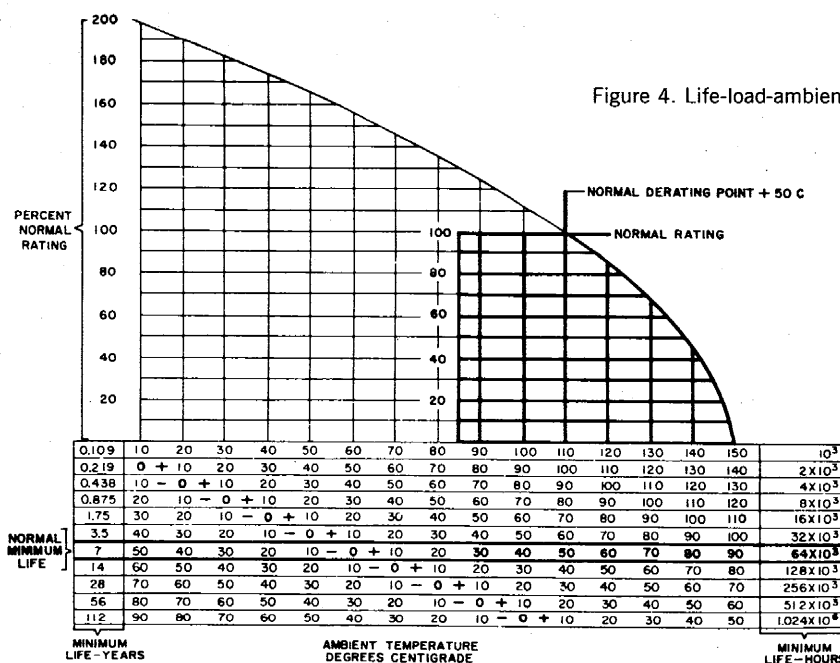

Figure 4. Life-load-ambient curve.
**A trade off—life vs increased rating** When the effects of temperature upon rating and upon insulation life are combined, a new life-load-ambient relationship is obtained; Figure 4 illustrates this relationship.